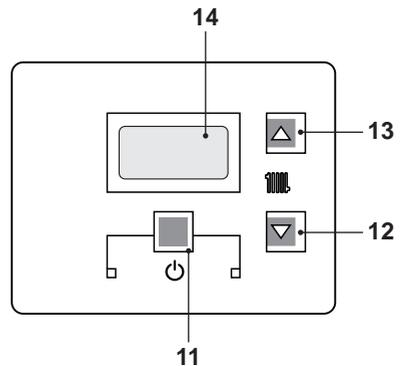

Fig. 2.5
- Press the key 11 for 2 seconds until '11111' symbol appears on the display Fig. 2.5.
The output temperature of c.h. water can be adjusted by acting on keys 12 (reduce) and 13 (increase) (Fig. 2.5) from a minimum of
However, if the ambient temperature is not comfortable, the flow temperature of the heating plant can be increased or reduced by  $\pm 15^\circ\text{C}$  by acting on keys 12 (reduce) and 13 (increase) (Fig. 2.5).